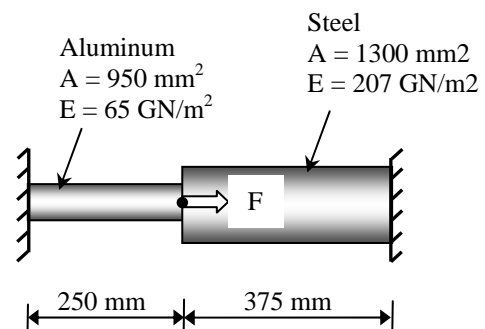

Fig. 3
5. A composite bar as shown in Fig 3 is firmly attached to unyielding supports at the ends and is subjected to the axial load  $F$ . If the aluminum is stressed to  $70 \text{ MPa}$ , what is the stress in the steel?